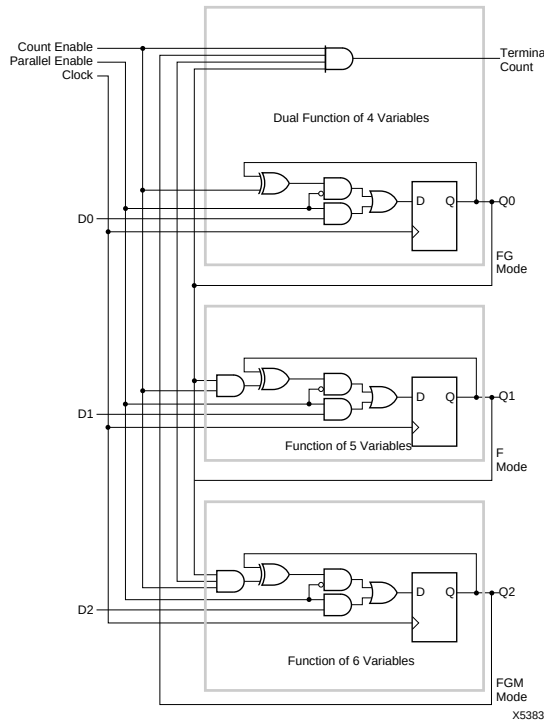

**Figure 7: Counter.**
The combinatorial-logic portion of the CLB uses a 32 by 1 look-up table to implement Boolean functions. Variables selected from the five logic inputs and two internal block flip-flops are used as table address inputs. The combinatorial propagation delay through the network is independent of the logic function generated and is spike free for single input variable changes. This technique can generate two independent logic functions of up to four variables each as shown in Figure 6a, or a single function of five variables as shown in Figure 6b, or some functions of seven variables as shown in Figure 6c. **Figure 7** shows a modulo-8 binary counter with parallel enable. It uses one CLB of each type. The partial functions of six or seven variables are implemented using the input variable (E) to dynamically select between two functions of four different variables. For the two functions of four variables each, the independent results (F and G) may be used as data inputs to either flip-flop or either logic block output. For the single function of five variables and merged functions of six or seven variables, the F and G outputs are identical. Symmetry of the F and G functions and the flip-flops allows the interchange of CLB outputs to optimize routing efficiencies of the networks interconnecting the CLBs and IOBs.